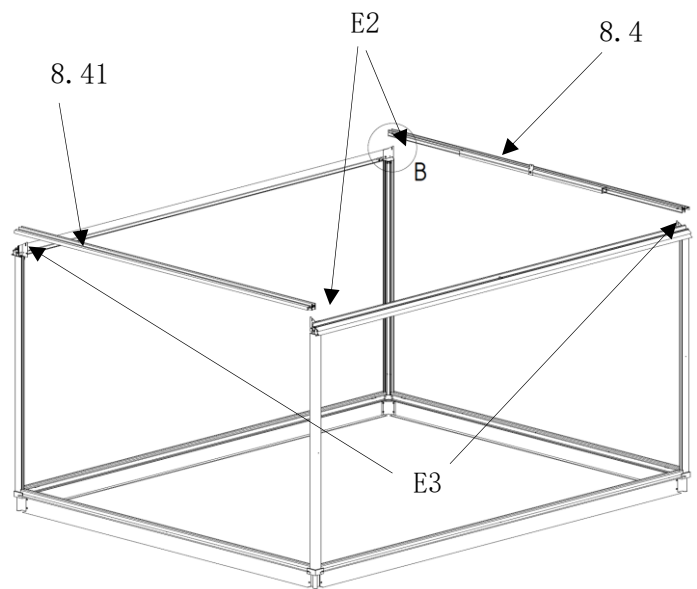

fig. 17
- the prefabricated AG-gable-door-track (item 8.4) is screwed to the eaves corner connectors (item E2/E3)!
- the gable door track (item 8.41) is screwed to the eaves corner connectors (item E2/E3)! (fig. 17)